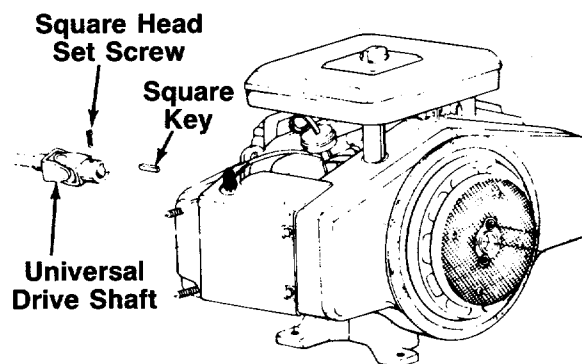

FIGURE 32.
1. Loosen the square head set screw on the front universal joint. See figure 32.